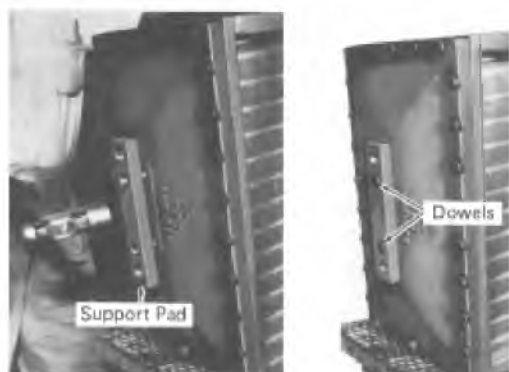

Fig. 10-4 - Support Pad To Dowel Installation
2. Apply the support pad to the back plate dowels of the aftercooler, Fig. 10-4, with the gasket in position at the outside so as to contact the air duct.